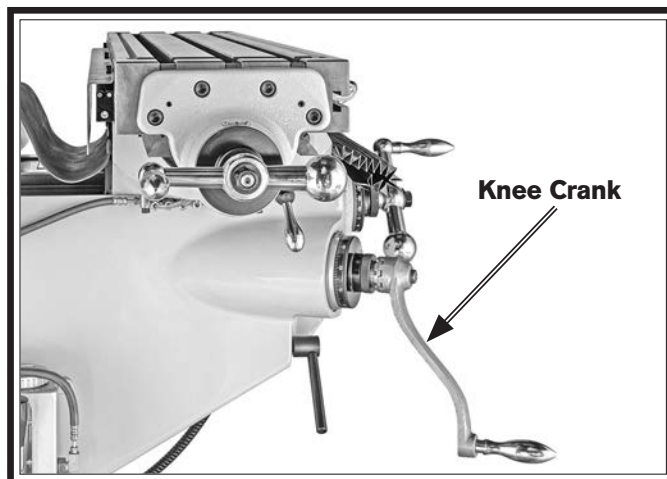

Figure 19. Knee crank installed.
4. Slide knee crank (see **Figure 19**) onto Z-axis leadscrew, and ensure that teeth fully engage.